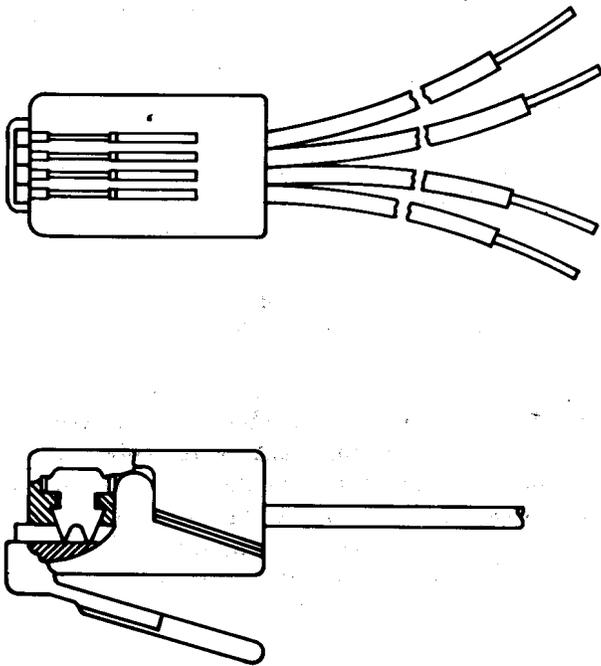

Fig. 10—525A Plug
2.10 **525A:** The 525A (Fig. 10) is a 4-conductor, self-locking, thermoplastic plug with four teflon insulated leads, 7 inches long. The 525A plug is used in the single channel Carrier Systems.